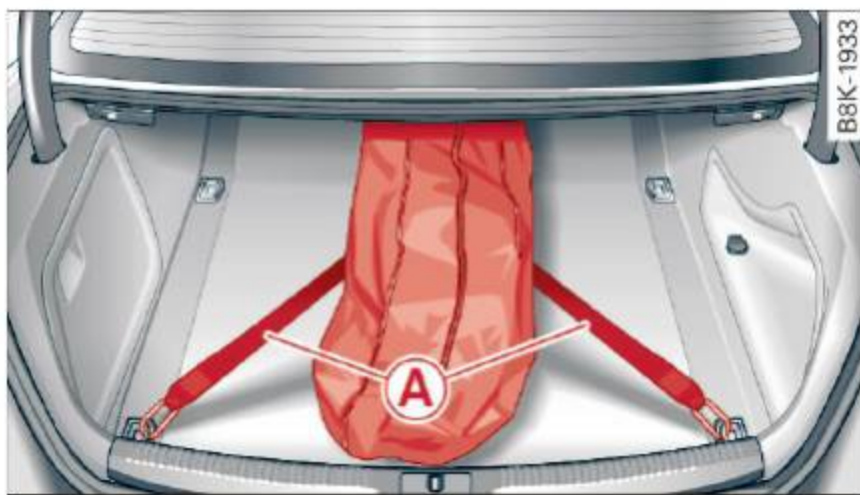
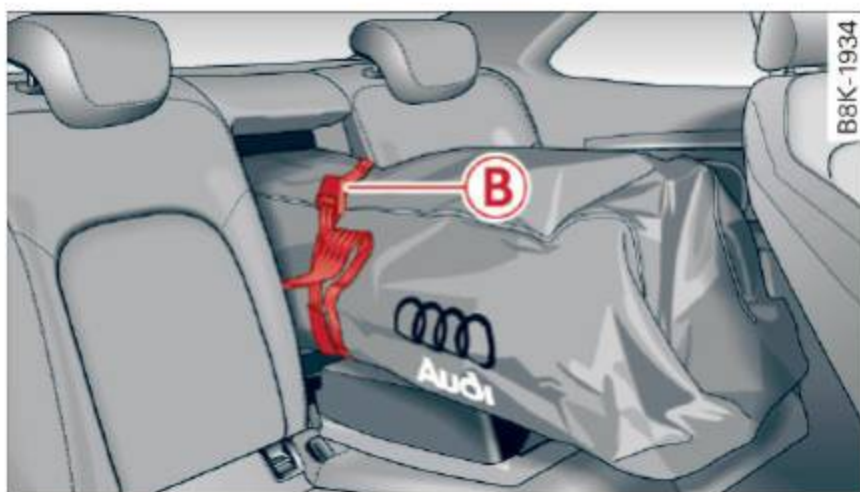

Fig. 71 Luggage compartment: Securing the ski sack
Fig. 72 Rear bench seat: securing the ski sack
There are two straps with hooks on the bottom side of the ski sack ⇒ *fig. 71* **A**. There is also a securing strap **B** ⇒ *fig. 72* on the sack.
- ▶ To secure the ski sack in the luggage compartment, hang the hooks in the rear tie-downs ⇒ *fig. 71*.
- ▶ Tighten the strap on the ski sack to prevent the objects in the sack from sliding ⇒ *fig. 72*.
- Sharp edges on the load must be covered for protection. Always fasten the belt tightly around the sack and its contents ⇒ *fig. 72*.